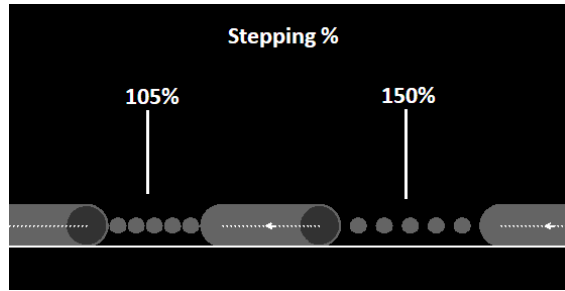

Figure 181
- Stepping %: Is the distance between the perforation holes as a percentage of drill diameter, see Figure 181.